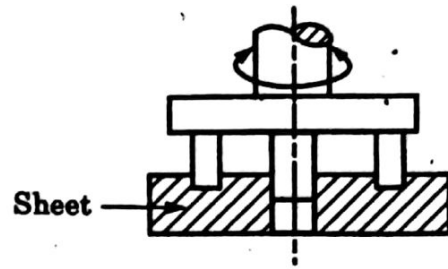

Fig. 2.21 : Trepanning
10. Trepanning : It is also known as circle cutting operation. In this operation, an annular groove is produced leaving a solid cylindrical base in the centre. A cutter consisting of one or more cutting edges placed along the circumference of a circle is used to produce the annular groove as shown in fig. 2.21. It is used for holes more than 50 mm in diameter.